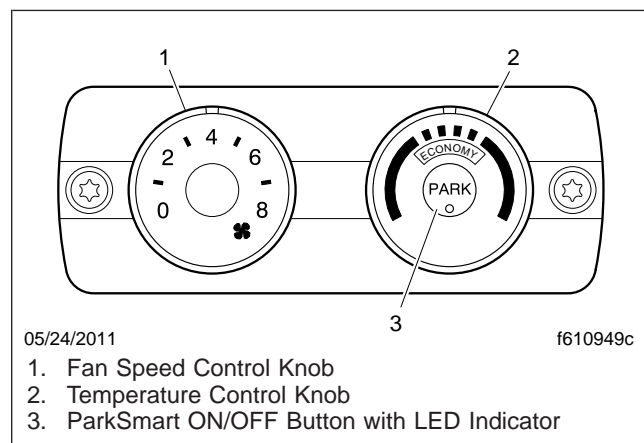

Fig. 1, Parked HVAC Control Module
- The ParkSmart runs unless the ParkSmart fan speed control knob is turned to the "OFF" position. See Fig. 1. The fan speed control knob must be set at "1" or higher.